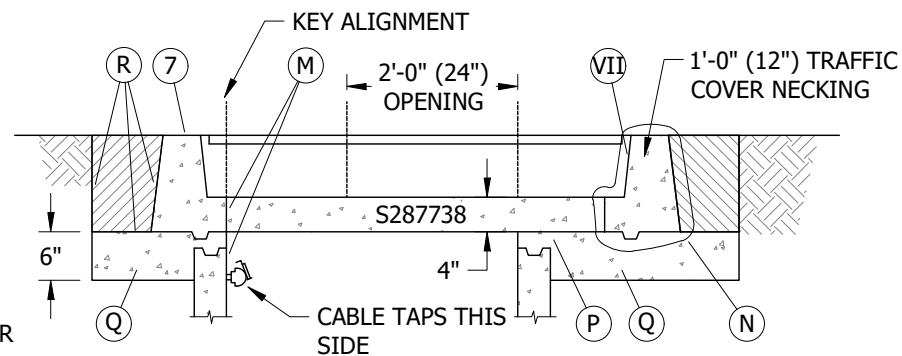

FIGURE 11
- M SET THE TRAFFIC COVER USING THE INSIDE LIFTING ANCHORS TO PREVENT ANY PROBLEMS REMOVING THE LIFTING DEVICE. LINE UP THE INSIDE EDGE OF THE TRAFFIC COVER NECKING WITH THE INSIDE EDGE OF THE HANDHOLE INTERMEDIATE SECTION ON THE SAME SIDE THE CABLE TAPS ARE LOCATED. IF HANDHOLE DOES NOT HOUSE CABLE TAPS, ALIGN THE INSIDE EDGE OF THE 3315 HANDHOLE TRAFFIC COVER NECKING WITH THE INSIDE EDGE OF THE INTERMEDIATE HANDHOLE SECTION ON THE STREET SIDE. THIS IS THE KEY ALIGNMENT TO THE ENTIRE INSTALLATION, SEE FIGURE 11.
- N IF ANY OF THE TRAFFIC COVER NECKING WILL BE SET IN CONCRETE (ALONG A CURB OR IN A CONCRETE STREET), WRAP 4 OR 6 MIL POLYETHYLENE SHEETING COMPLETELY AROUND THE NECKING AND TIE WITH TAPE. THIS WILL PREVENT EXISTING CONCRETE AND NEW CONCRETE FROM BONDING, MAKING IT EASIER TO RAISE COVER IN THE FUTURE, SEE FIGURE 11.
- P ALIGN TRAFFIC COVER NECKING TO GRADE USING BRICKS OR WOODEN WEDGES. POUR CONCRETE (4-SACK MIX WITH 3/8-INCH PEA GRAVEL OR AS REQUIRED BY CITY OR COUNTY CODES) INSIDE OF NECKING AND INTO THE OVERLAPPING AREA OF SECTIONS. SMOOTH CONCRETE WITH GROUT AND TROWEL, SEE FIGURE 11.
- Q ON THE OUTSIDE OF THE NECKING, POUR AND PACK CONCRETE UNDERNEATH WITH A SHOVEL UP TO THE BOTTOM OF THE NECKING AND UP TO FINAL GRADE LEVEL AT THE CURB. SMOOTH OUT ANY EXCESS CONCRETE COMING THROUGH ON INSIDE OF HANDHOLE. TRIM AWAY EXCESS PLASTIC SHEETING, SEE FIGURE 11.